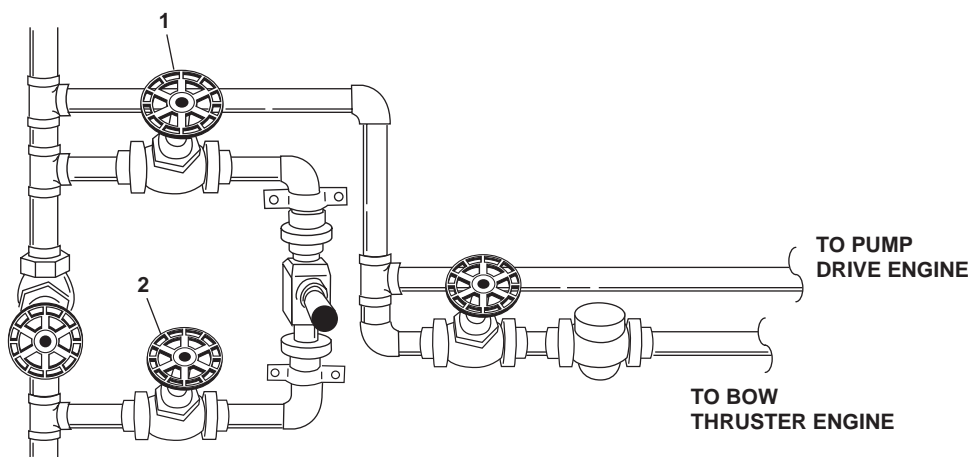

Figure 4. Ship's Service Air System Valve Locations (Forward Bulkhead)
7. CLOSE valves CA-40, SVCE AIR TK INL (figure 4, item 1) and CA-39, SVCE AIR TK INL (figure 4, item 2).